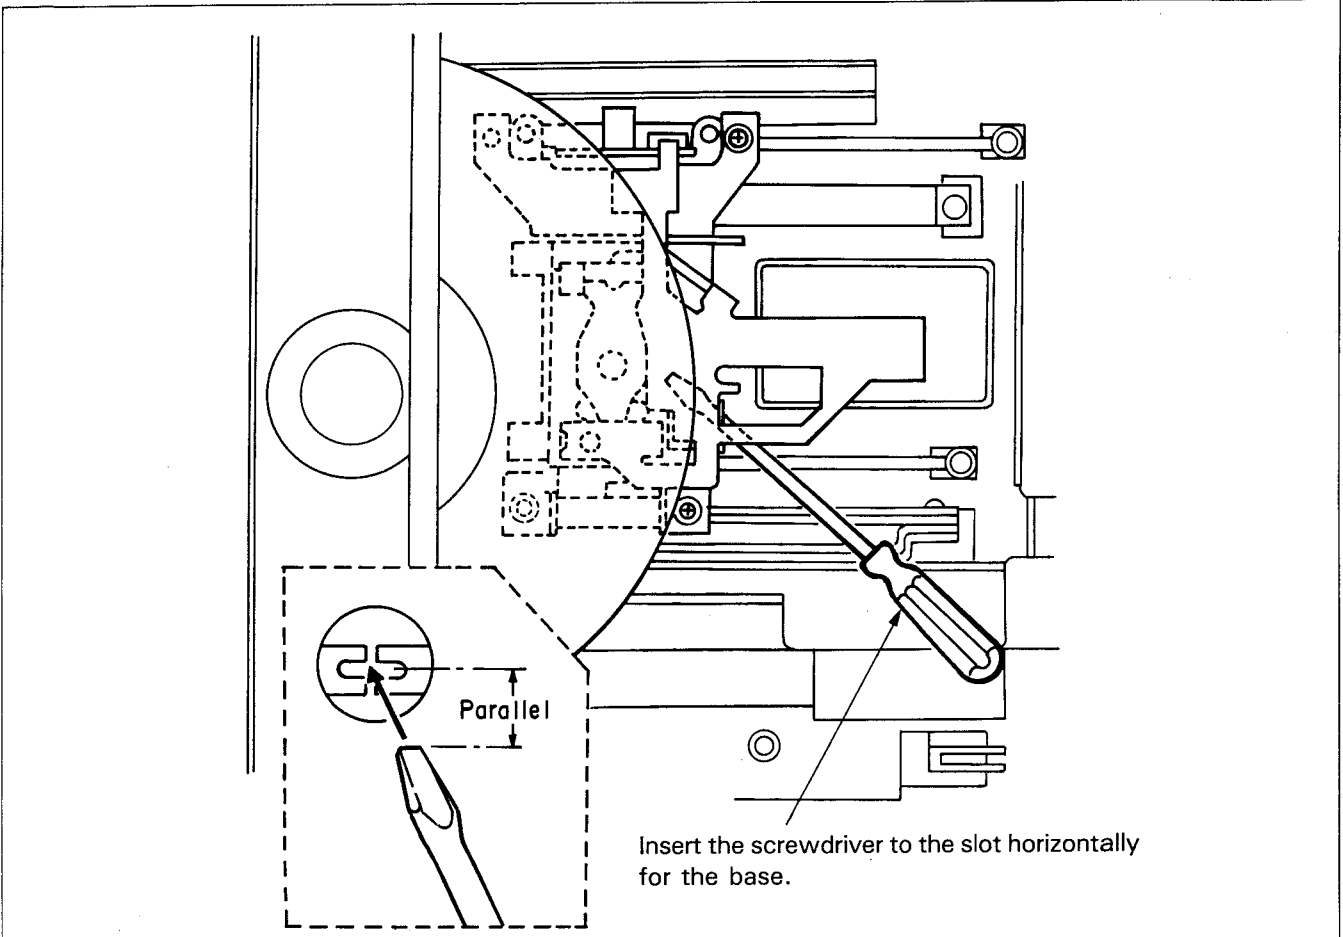

Fig. 2
6. Insert the flat bladed \ominus screwdriver (small) into the grating adjustment hole horizontally (Fig. 2.).